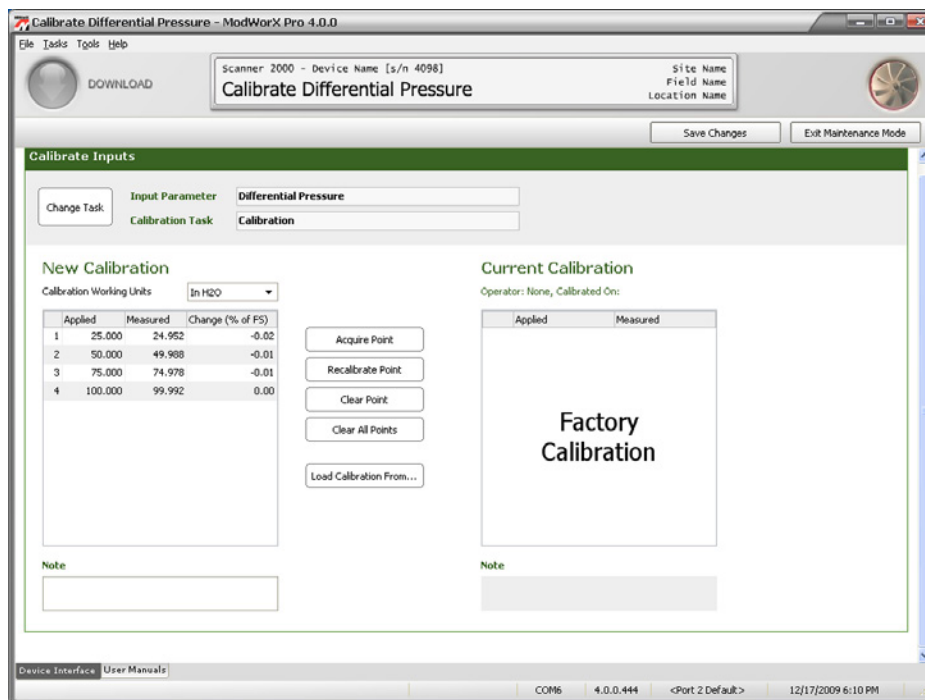

Figure 8.8
8. When a measured value is indicated, click **OK** to save the calibration point and return to the Calibrate Differential Pressure screen (Figure 8.8, page 117). The New Calibration table is updated with the applied pressure, the measured value, and a percentage of change. The percentage of change is expressed as a percentage of full scale, and is a measure of how the calculated value will change based on the new calibration with respect to the previous calibration.